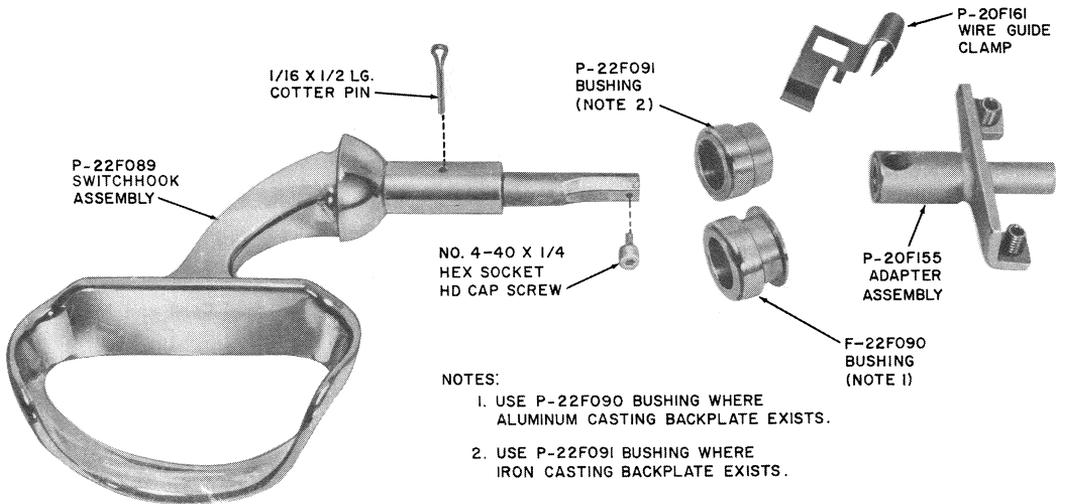

Fig. 21—D-180009 Switchhook Kit
2.30 The D-180009 switchhook conversion kit (Fig. 21) is designed to reduce switchhook blocking and permit a simple adjustment of switchhook travel. The conversion kit can be used for field conversion of 200-type and 1234-type coin collectors.
(2) Select correct bushing (Fig. 21) and slide over shaft of switchhook.